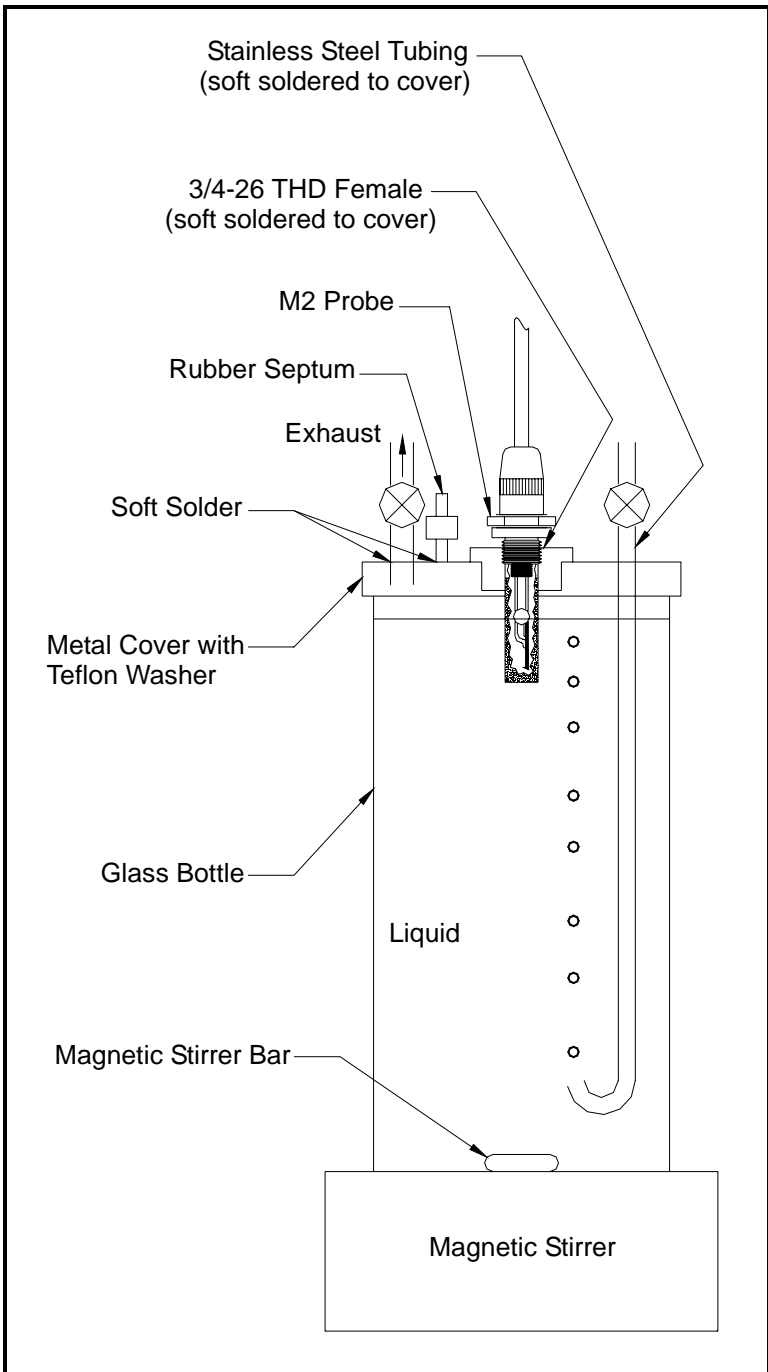

Figure A-3: Moisture Content Test Apparatus
Either of the empirical calibration techniques described above can be conducted using an apparatus equivalent to that shown in Figure A-3 on page A-39. The apparatus pictured can be used for both the Karl Fischer titrations of unknown test samples and the preparation of test samples with known moisture content. Procedures for both of these techniques are presented below.
To perform a Karl Fischer analysis, use the apparatus in Figure A-3 on page A-39 and complete the following steps:
To prepare samples of known moisture content, use the apparatus in Figure A-3 on page A-39 and complete the following steps:
- a. Using the apparatus shown in Figure A-3 on page A-39, dissolve a known amount of the solids sample in a suitable hydrocarbon liquid.